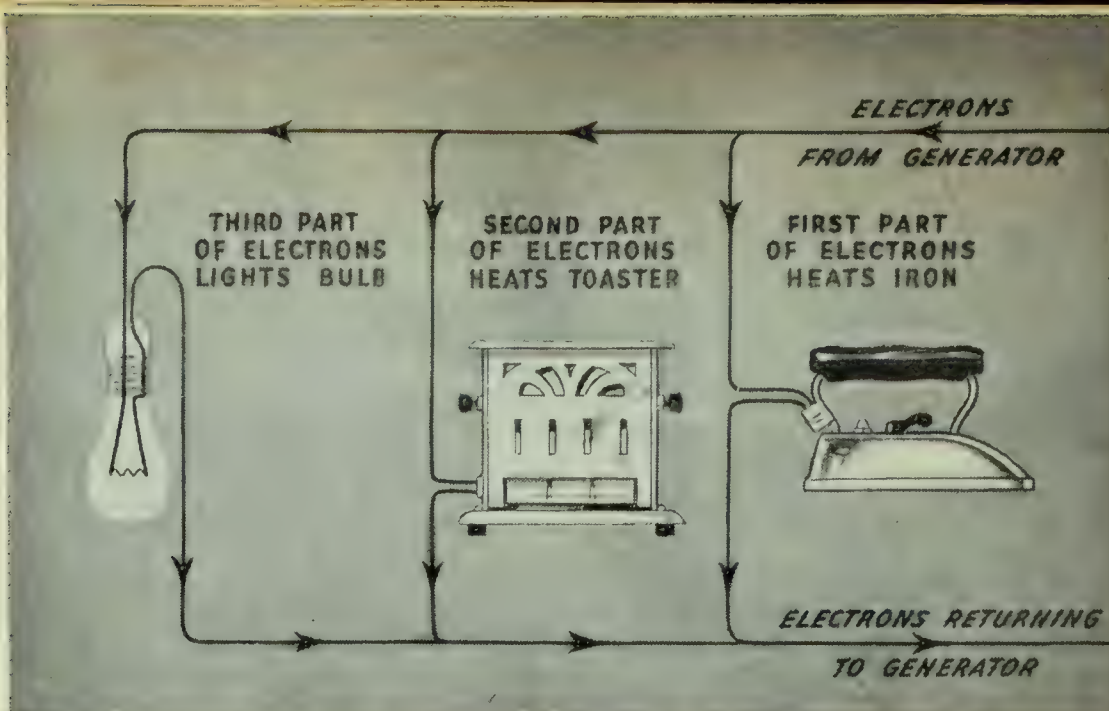

FIG. 376. How a number of electrical appliances can be connected in parallel so that electrons can flow through any one of them
**H**OW ARE CIRCUITS ARRANGED IN PARALLEL AND IN SERIES? The lights and other devices that use the current are all connected in such a way that part of the current of electrons can go through one light and right back to the generator. Another part goes through another light, and so on (Figure 376). This plan of connecting devices together is known as a *parallel circuit*, or *parallel connection*. When several devices are connected "in parallel," you can turn on one light or one toaster without having everything else going. However, each light or toaster or iron